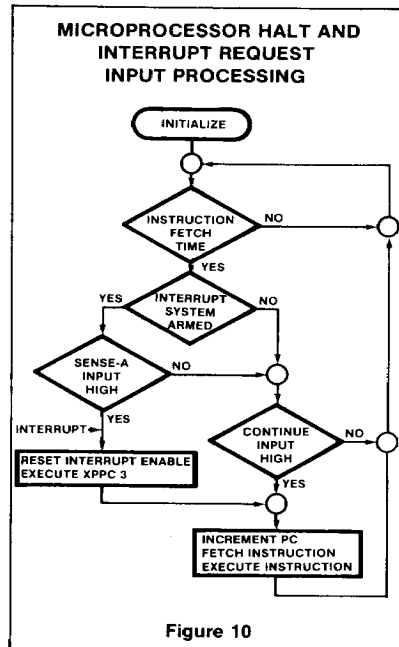

Figure 10
When the internal interrupt enable (IE) flag is set under program control, the Sense A line is enabled to serve as an interrupt request input; when the IE flag is reset, SC/MP is inhibited from detecting interrupts. Thus, while the IE flag is set, the Sense A input is tested prior to the fetch phase of each instruction as shown in Figure 10. Upon detection of an interrupt re-